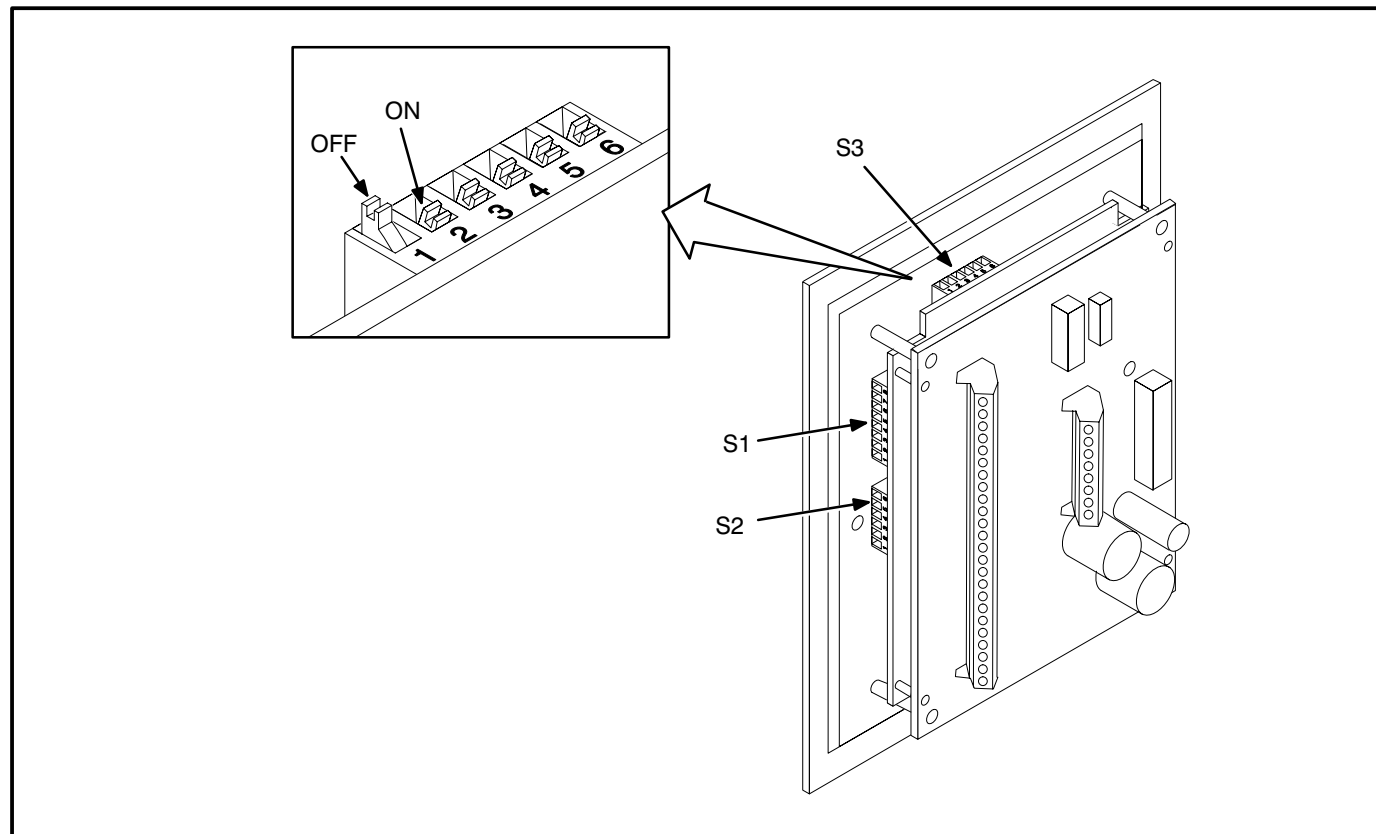

FIGURE 5. MODIFICATION SWITCH LOCATIONS
Each of the bottom 14 annunciator audible alarms can be individually set to ON or OFF. Setting the individual switch (specified in Table 2) to the ON position allows the fault to turn the audible alarm on. Setting the individual switch to the OFF position turns the audible alarm feature off. Refer to Figure 5 for switch location and settings.
The Normal Battery Voltage indication can be replaced with a customer specified indication (light indication only). Add the fault description to the control panel. Refer to Figures 3 and 4 for interconnect information. Change the S3 switch settings as shown in Table 3 to change from the normal battery voltage indication to a customer specified indication (see Figure 5).
2. Confirm that S3 switch settings are in the positions shown in table 3 (refer to Figure 5).
1. Check S2 and S3 switch positions using Table 3 and Figure 5. Verify that the input's corresponding audible alarm switch (S1 or S2) is set to ON.